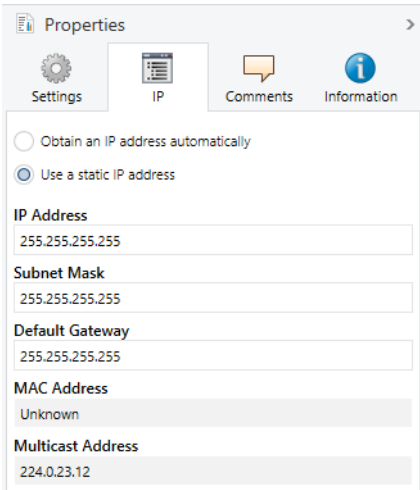

Figure 21: IP settings
3. You will find the available selection options in figure 21 and table 12 “Settings for manual IP address entry or for receiving automatically”, p. 31.